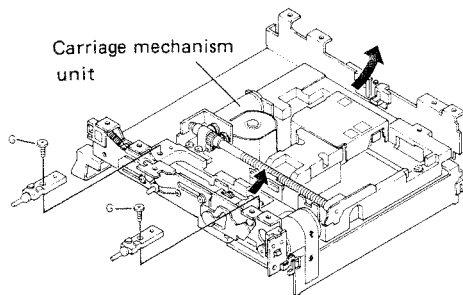

Fig. 17
• **Carriage Mechanism Unit Removal (Fig. 17)**